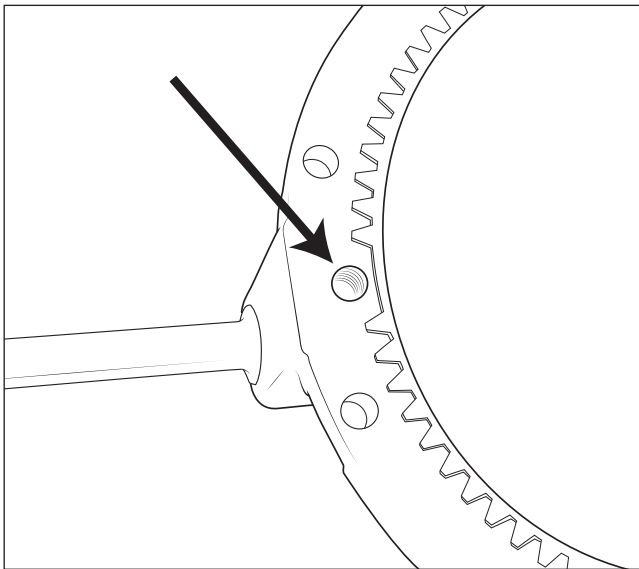

Figure 9
12. Remove the gasket to reveal the set screw that retains the engagement lever (fig. 9).